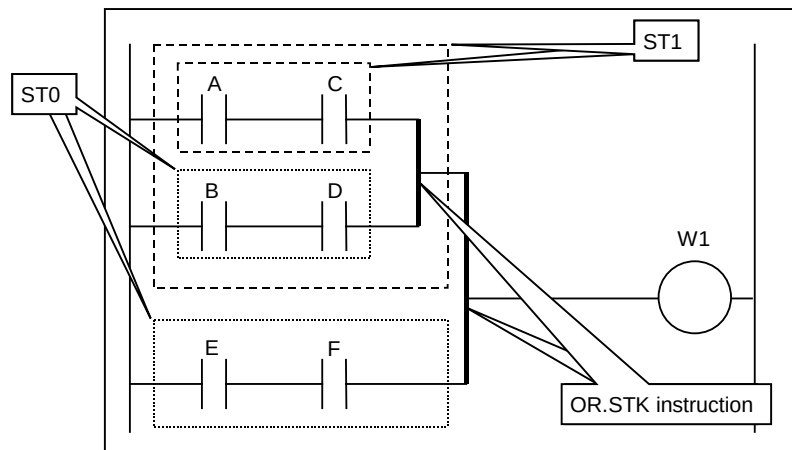

Fig. 4.1.13 (b)
- (1) The OR.STK instruction finds the logical sum of the operation result stored in the ST0 bit and that stored in the ST1 bit and sets it in the ST1 bit. The instruction then shifts the register content one bit to the right and puts the resulting logical sum into the ST0 bit. Fig. 4.1.13 (b) shows a detailed image of what is shown in Fig. 4.1.13 (a).